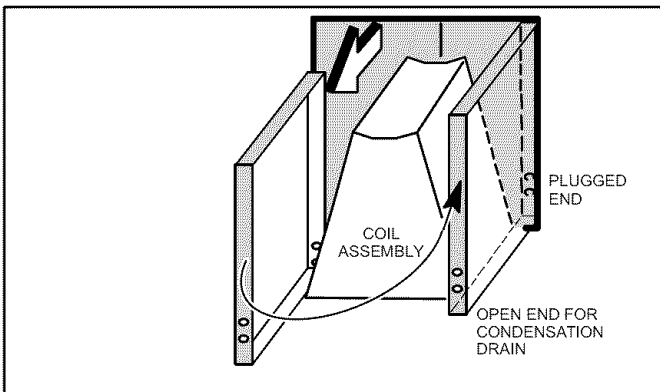

Figure 8. Right-Hand Drain Plug Location
- Move the horizontal drain pan to the opposite side of the coil. Be sure drain holes toward the back of the unit are plugged (see figure 8). Remove the plugs from the front drain pan ports.